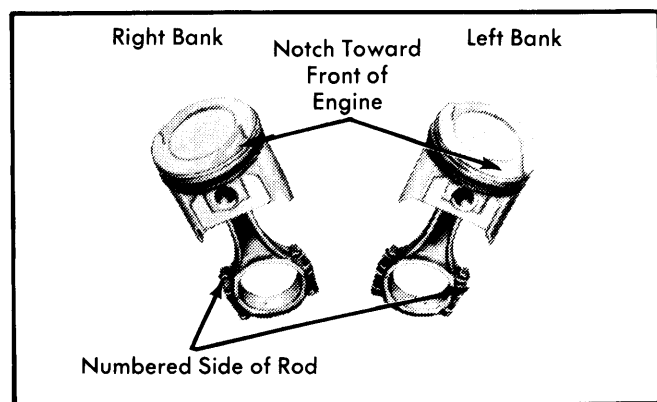
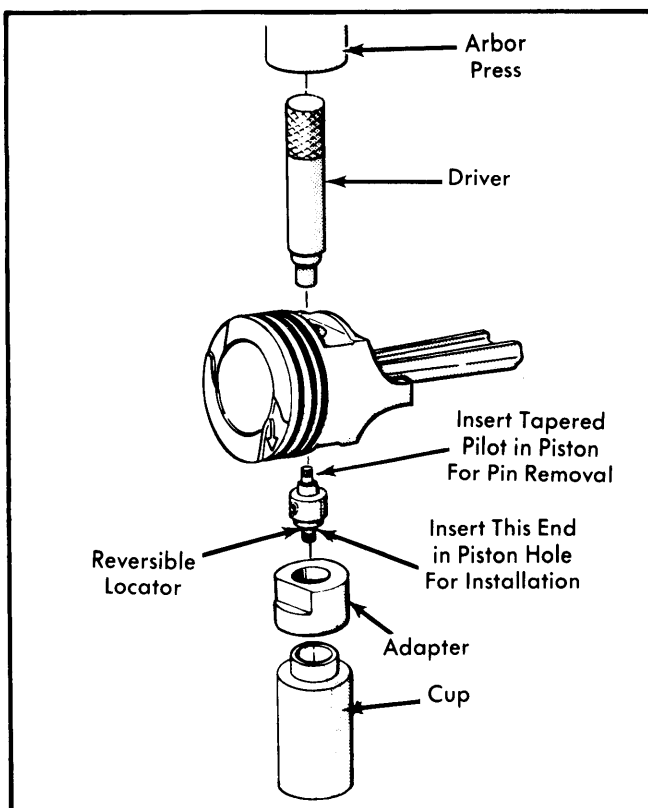

Fig. 9 Fitting Piston and Connecting Rod Assembly
Fig. 10 Correct Tools for Removing and Installing Piston Pins
2) Position piston on connecting rod as shown in illustration (see Fig. 9). Using an arbor press and suitable tools (see Fig. 10) press piston pin into piston and connecting rod.
Removal - Using an arbor press and suitable tools (see Fig. 10) press piston pin out of connecting rod and piston